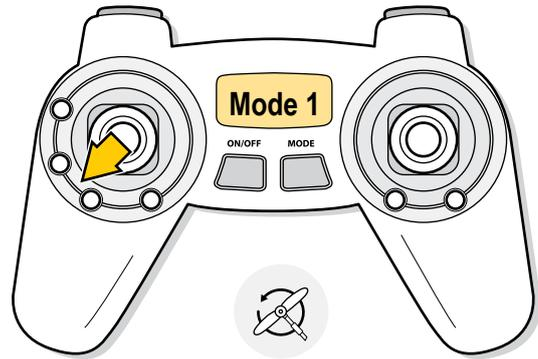

Fig. 26
1. Start the engines by carefully moving the ELEVATOR/RUDDER lever diagonally into the left bottom corner (see [Fig. 26]). Hold this position until the motors turn on. It may be necessary to slightly move the lever until you find the correct position.